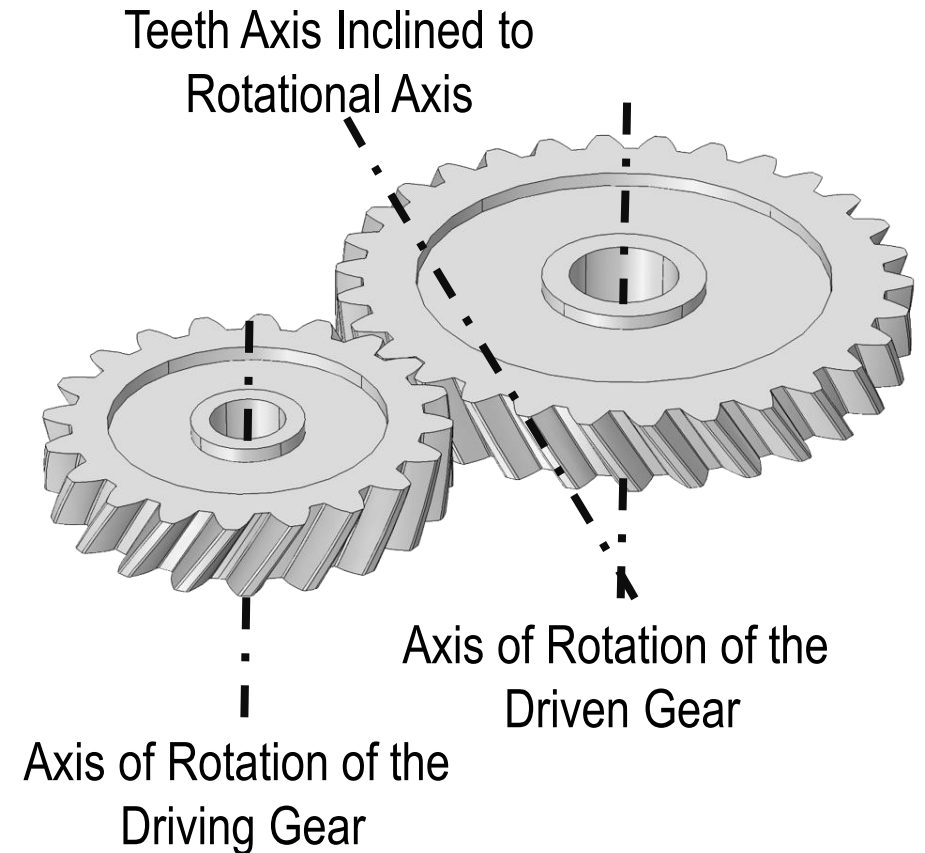

Figure 8-2 Helical Gears
- **Helical Gears:** have the teeth inclined to the axis of rotation as shown in Figure 8-2.